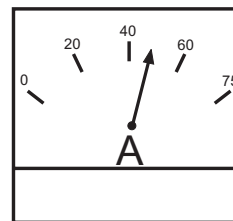

Figure 51. Ammeter (Load)
17. Observe the generator's ammeter (Figure 51) and verify it reads the anticipated amount of current with respect to the load. The ammeter will only display a current reading if the load is in use.